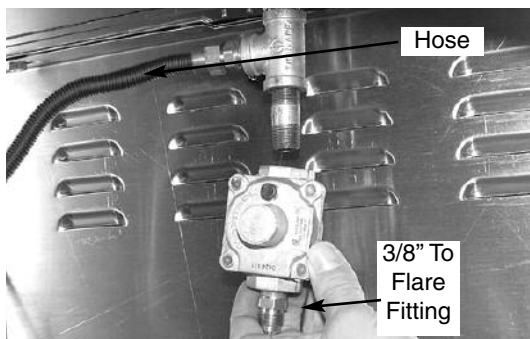

Fig 28
7. (\*\* Note – pay attention to arrow on the NG regulator indicating direction of gas flow. The arrow should point up.) Attach the NG regulator to the nipple (See Fig. 28). **Remember to apply pipe dope!**